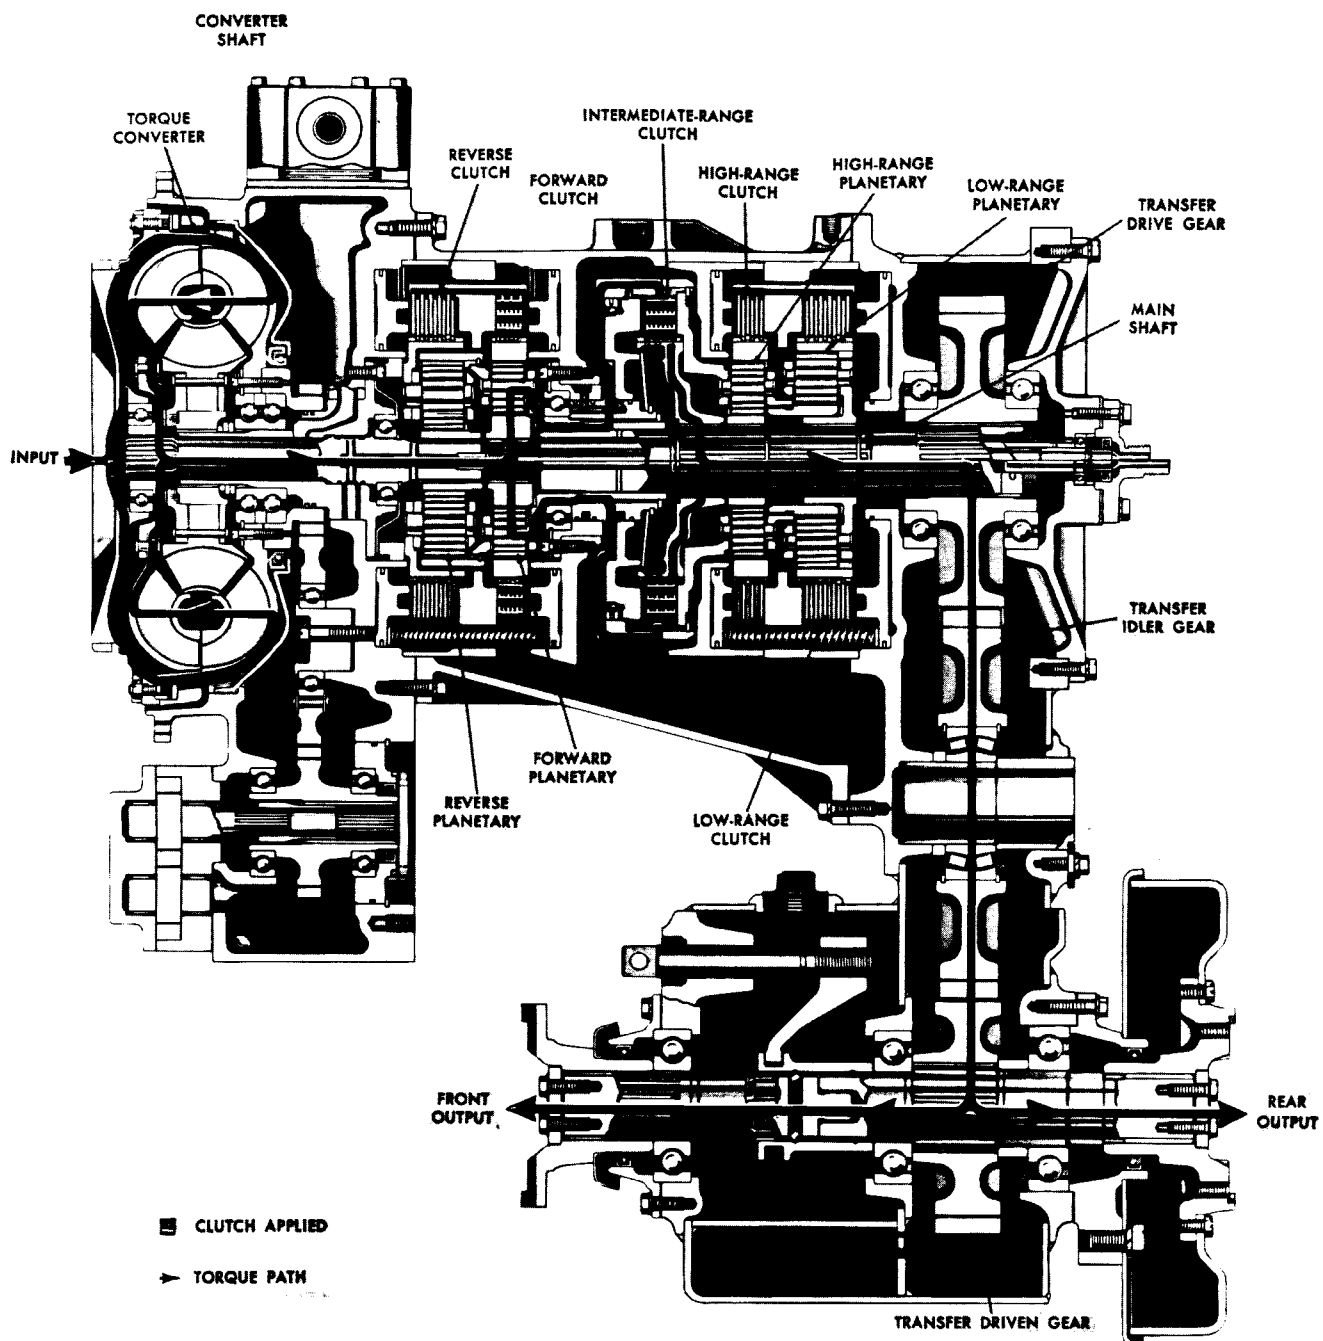

Fig. II-3. Forward, intermediate-range—torque path (CRT 3331-1)
25. FORWARD, INTERMEDIATE RANGE – TORQUE PATH (fig. II-3)